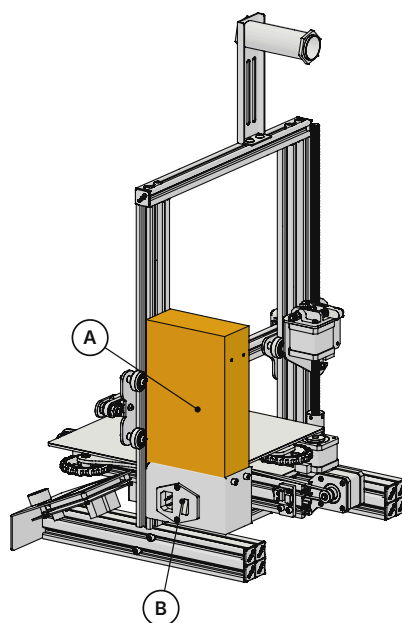

Figure 5-1 Position of the PSU (A) and the mains inlet with switch (B) at the right rear of the printer.
- 1 Check that the mains switch (B in Figure 5-1) is in the off position.